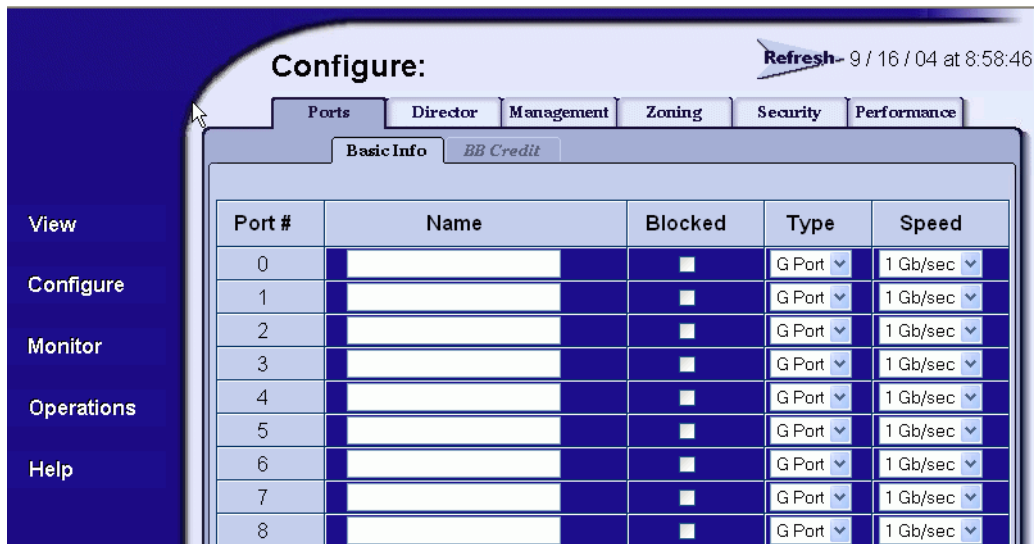

Figure 4-28 Configure Panel (Ports Page)
1. When the SANpilot interface opens, the *View* panel and *Switch* page appear as the default. At the *View* panel, select the *Configure* option at the left side of the panel. The *Configure* panel opens with the *Ports* page displayed (Figure 4-28).
- When the SANpilot interface opens, the *View* panel and *Switch* page appear as the default. At the *View* panel, select the *Configure* option at the left side of the panel. The *Configure* panel opens with the *Ports* page displayed (Figure 4-28).